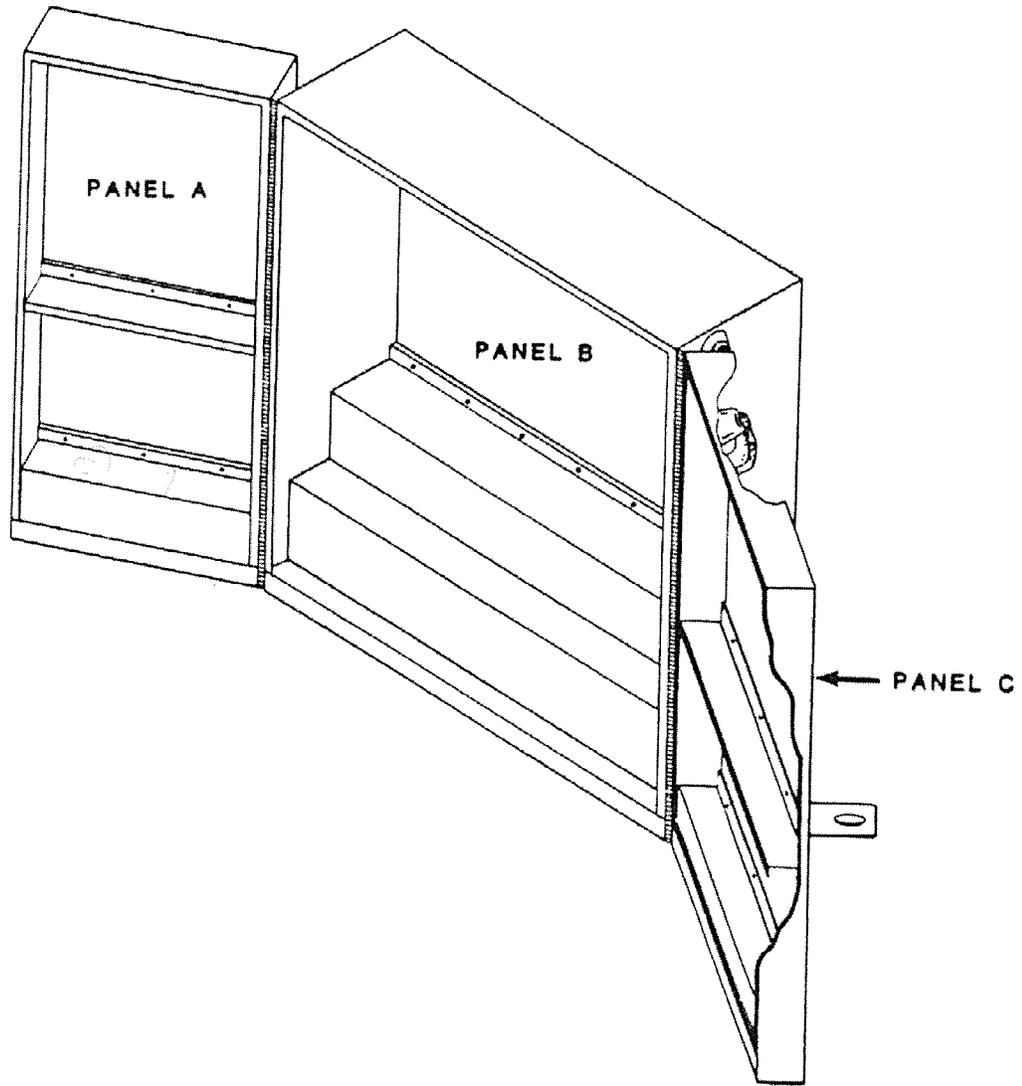

Figure 4-5. Tool Cabinet, Repair "F" and "G"
- e. Tool Cabinet, Repair "F", Part No. 6SE00570-1 shown in Figure 4-5, is two feet square with doors closed. The doors are three inches deep and the center section is nine inches deep. It has a two level tier in the center section, a five-inch high tier and a shelf in each door. The layout drawings have been extended in height in order to show the horizontal surfaces of the tiers and the shelves. This cabinet can be made portable by the use of a frame and caster assembly. This cabinet is typically used as a shop box and holds tools for the more complex maintenance tasks.
- f. Tool Cabinet, Repair "G", Part No. 6SE00570-2 shown in Figure 4-5, is the same basic design as the small cabinet except larger. This cabinet is three feet square and with the doors closed is one foot thick. It is used as a shop box and may be mounted on a wall or bench. As with the "F" cabinet the layout drawings have been extended in height in order to show the horizontal surfaces of the tiers and the door shelves.